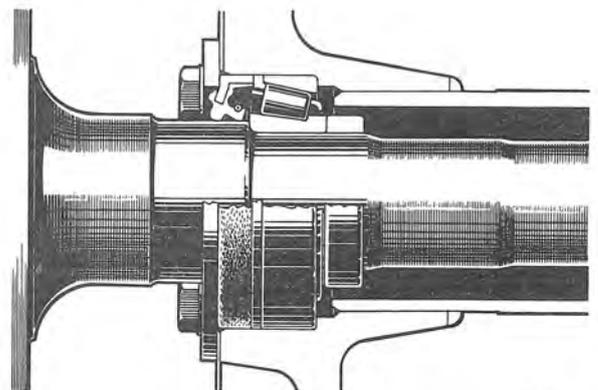

Fig. 4-136. Drive shaft journaling
The drive pinion is carried in taper roller bearings. The axial location of the drive pinion relative to the crown wheel is adjusted by means of shims under the outer race of the rear pinion bearings. Application of the pinion bearings is by means of shims under the front pinion bearing inner ring. The outer end of each drive shaft is journalled in a taper roller bearing. Bearing clearance is not adjustable but is determined by the construction of the bearing, see Fig. 4-136. There are oil seals on both sides of the drive shaft bearings.
5. Fill the space between the seal lips on the new oil with grease. Then place it on the drive shaft. Fit the bearing and lock ring. Turn the bearing correctly, see Fig. 4-136.